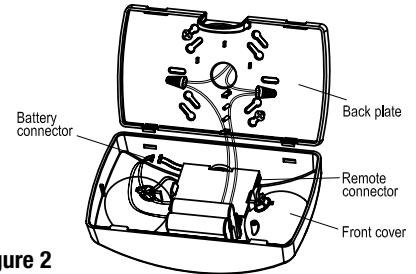

Figure 2
WALL MOUNT - BACK POWER FEED (FIGURE 2)
7. Connect the battery connector. (Figure 2)
CONNECTING REMOTE HEADS (FIGURE 2)